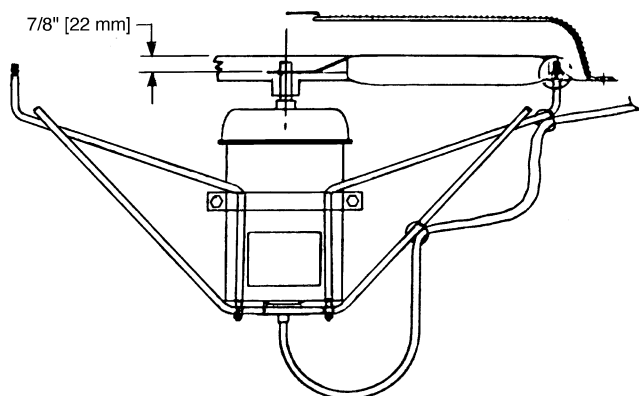

**Fig. 53 — Condenser-Fan Adjustment
3. See Fig. 53 and adjust fan height using a straight edge laid across the fan deck.